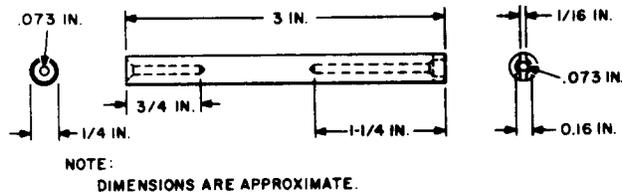

Fig. 27—KS-16748, L1, Insertion Tool
2.29 **KS-16748, L1**: The KS-16748, L1, insertion tool (Fig. 27) is used in replacing solderless-terminals in cast resin terminal strips.